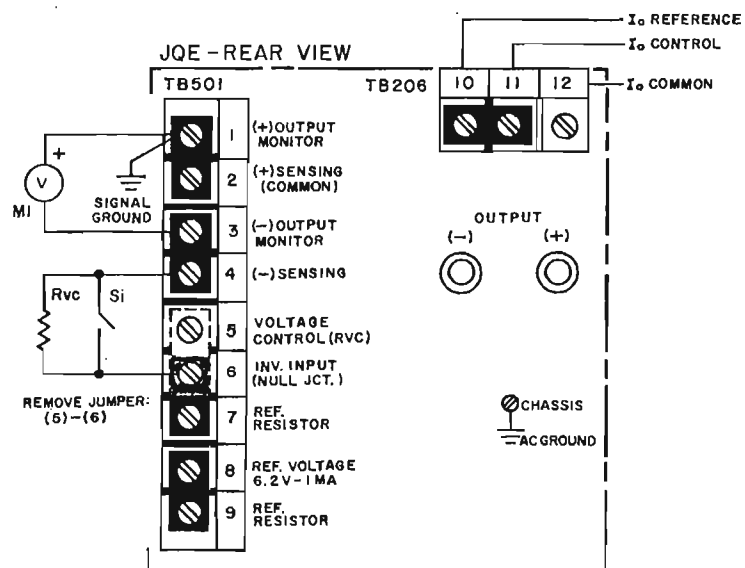

FIG. 3-7 CONNECTIONS FOR PRECISION PROGRAMMING RATIO ADJUSTMENT.
### 3-37 PROCEDURE, PRECISION PROGRAMMING RATIO ADJUSTMENT (Refer to FIG. 3-7)
- b) Connect calibration setup as shown in FIG. 3-7 and connect the power supply to the a-c power line: